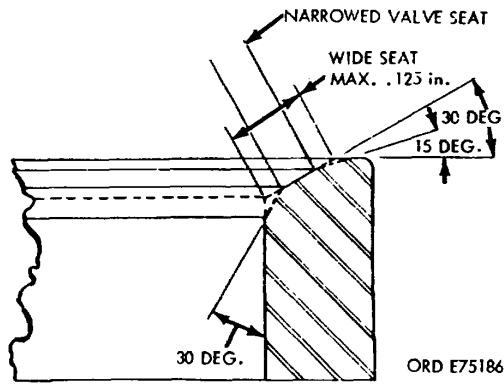

Figure 3-29. Valve seat-sectional view.
b. *Valve Seats* (fig. 3-29). Inspect for loose valve seats by tapping lightly on the cylinder head near the inserts. If valve seat is loose enough to bounce, or cannot be reground, mark for replacement. If valve seat area exceeds 0.125 inch at any point, replace head assembly.
- (1) Perform a water test as follows.